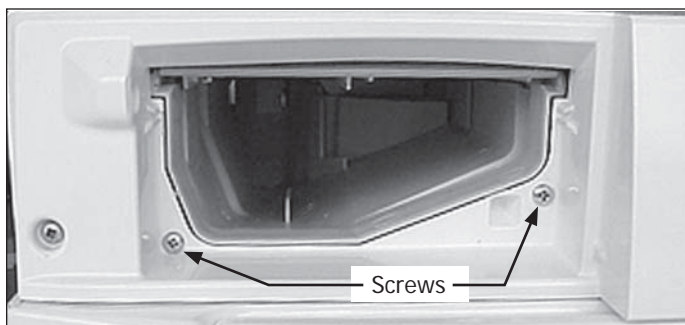

Figure 4-65.
6. Remove the (2) screws holding the housing to the console panel. (See Figure 4-65)